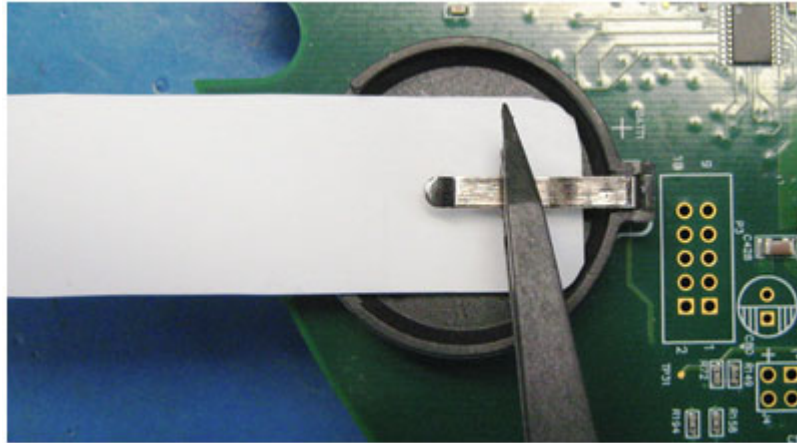

Figure 3-17: Lifting the Positive Tab
12. Use a non-conductive tweezer to gently lift the Positive (+) tab up. See Figure 3-17.